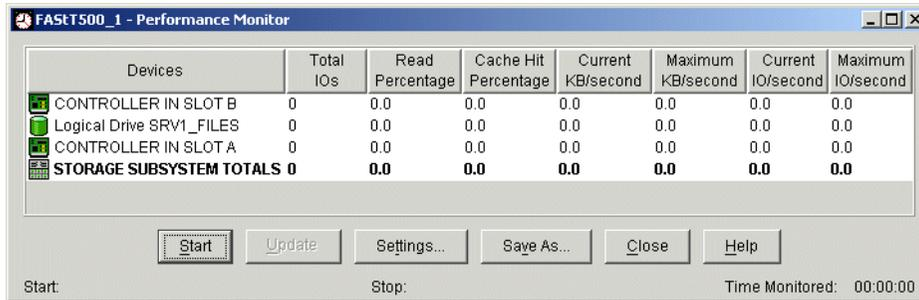

Figure 6-8 Performance Monitor window
2. The FAStT500_1 - Performance Monitor window is displayed (see Figure 6-8):